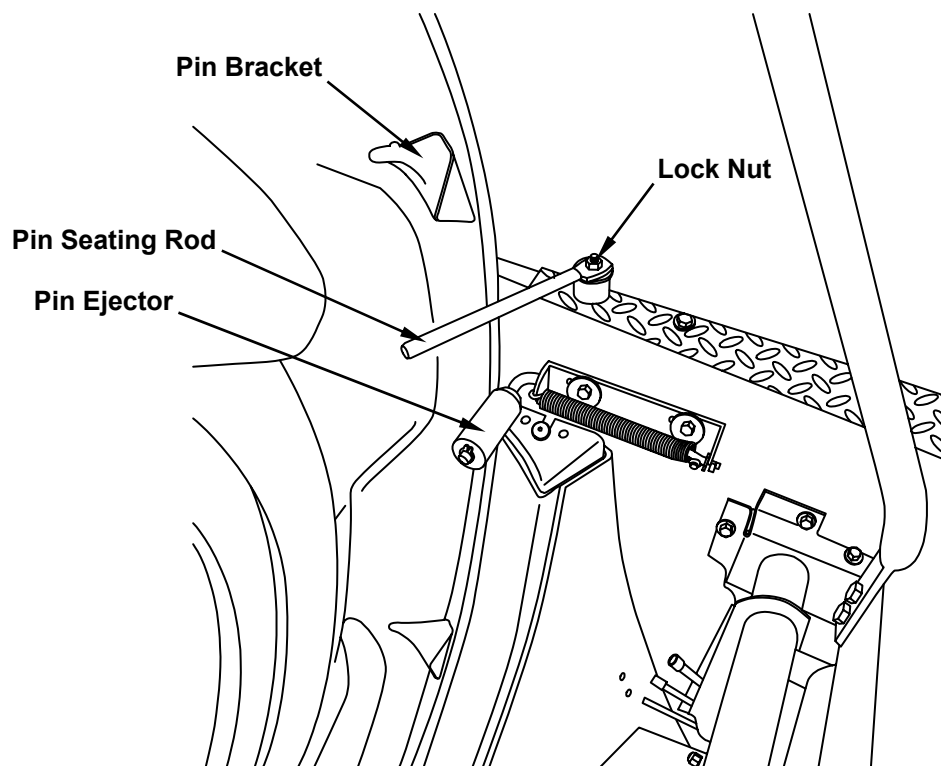

Figure 4.2-37
1. Loosen the lock nut and position the pin seating rod (Figure 4.2-37) so that it clears the pin bracket by approximately 1/4 inch. Tighten the lock nut.